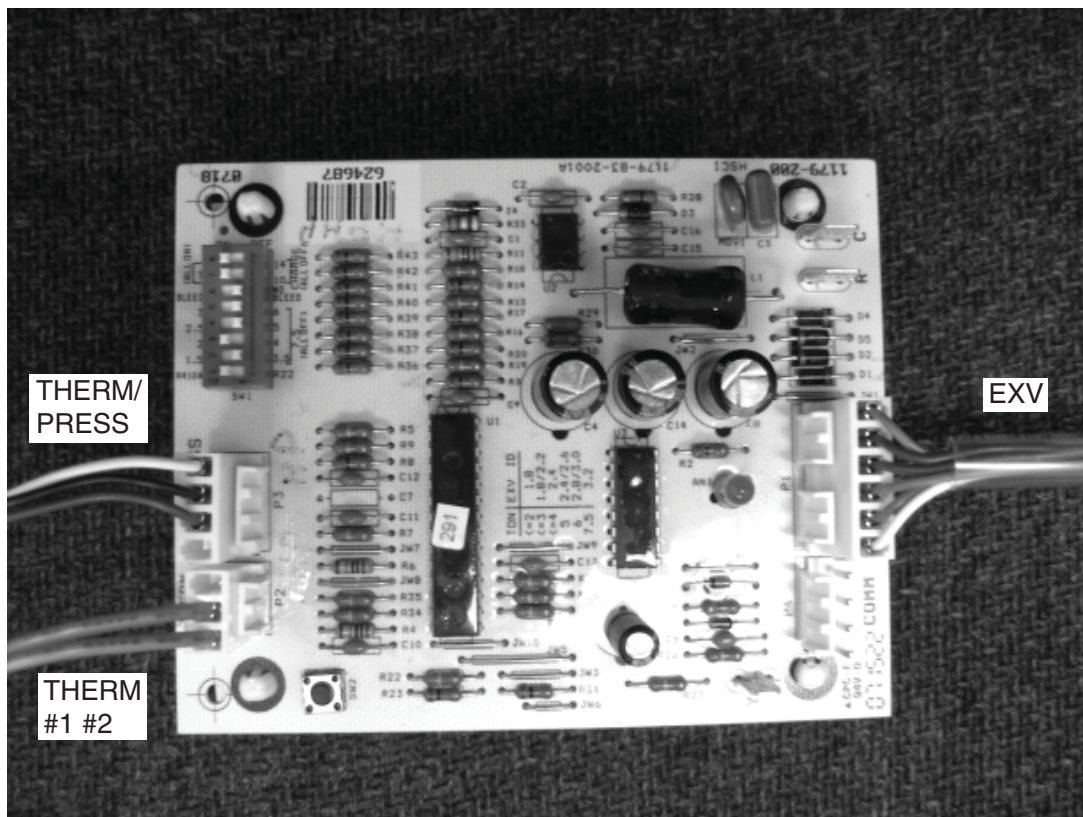

Figure 9. EXV Circuit Board Showing EXV Coil Harness (6-wire), Pressure Transducer Cable (3-wire), and Temperature Sensor Cable (2-wire) Connections.
- e. Connect the 6-pin EXV coil cable plug to the P1 connector marked "EXV" on the edge of the board. Make sure that the "ears" of the plug face inward on the board, towards the side of the connector with the back. (See Figure 9)
- f. Connect the 3-pin plug (with the two red wires) to the P2 connector on the EXV board, also labeled "THERM #1 #2" at the edge of the board. Make sure that the "ears" of the plug face inward on the board, towards the side of the connector with the back. (See Figure 9)
- g. Connect the 4-pin plug (with the three wires) to the P3 connector on the EXV board, also labeled "THERM/PRESS" at the edge of the board. Make sure that the "ears" of the plug face inward on the board, towards the side of the connector with the back. (See Figure 9)